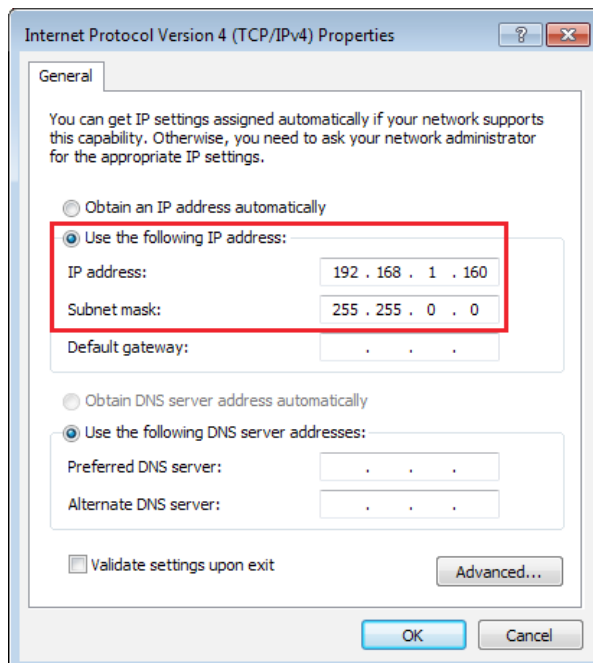

Figure 11: Internet Protocol Properties - Static IP Address
5. In the *Internet Protocol Version # (TCP/IPv#) Properties* window (**Figure 11**), click on **Use the following IP address** and enter the IP address and Subnet mask as shown: